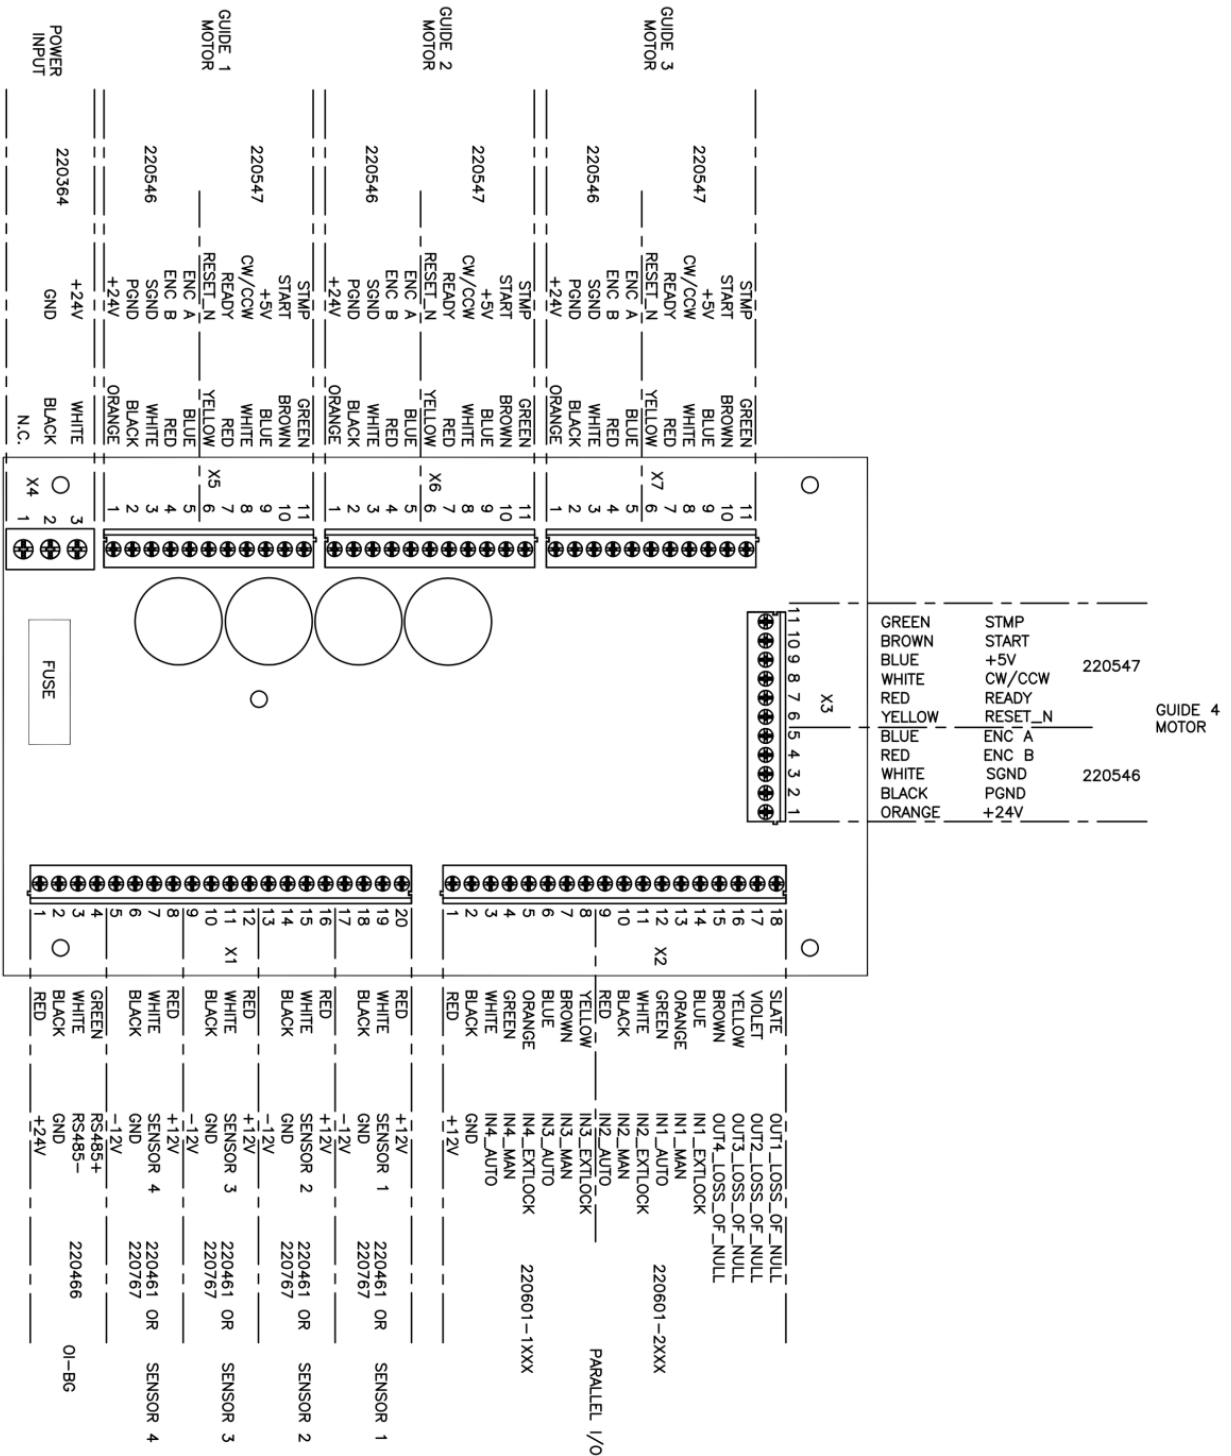

Figure 14. Controller connections for guides and sensor types fiber optic, SE-11, SE-22, SE-44R, or SE-31.
- Connect the wires from each cable to the appropriate terminal block pins as shown in the connection diagram in Figure 14 or Figure 15 on the following pages.
- Each cable is marked with a part number and the cable part number is shown in Figure 14 or Figure 15.
- Figure 14 shows the sensor connections for the motor and fiber-optic sensor and the FIFE sensors SE-11, SE-22, SE-44R, and SE-31.
Refer to Figure 14 and Figure 15 for the controller connections and the parallel I/O cable drawing 220601.